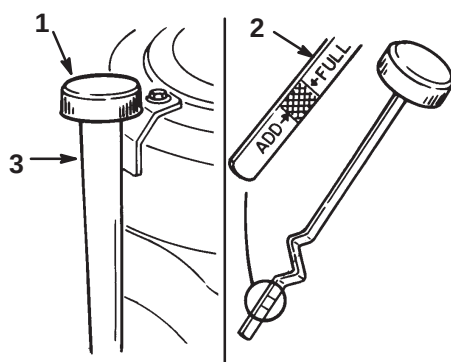

Figure 22
2. Clean around the oil dipstick (Fig. 22) so dirt cannot fall into the filler hole and damage the engine.
3. Unscrew the oil dipstick and wipe the metal end clean (Fig. 22).
4. Thread the oil dipstick fully onto the filler tube (Fig. 22). Pull the dipstick out and look at the metal end. If oil level is low, slowly pour only enough oil into the filler tube to raise the level to the "FULL" mark.
5. Slowly pour approximately 80% of the specified amount of oil specified, page 26, into the filler tube (Fig. 22). Now check the oil level; refer to Checking Oil Level, page 27. Slowly add additional oil to bring to "FULL" mark on dipstick.